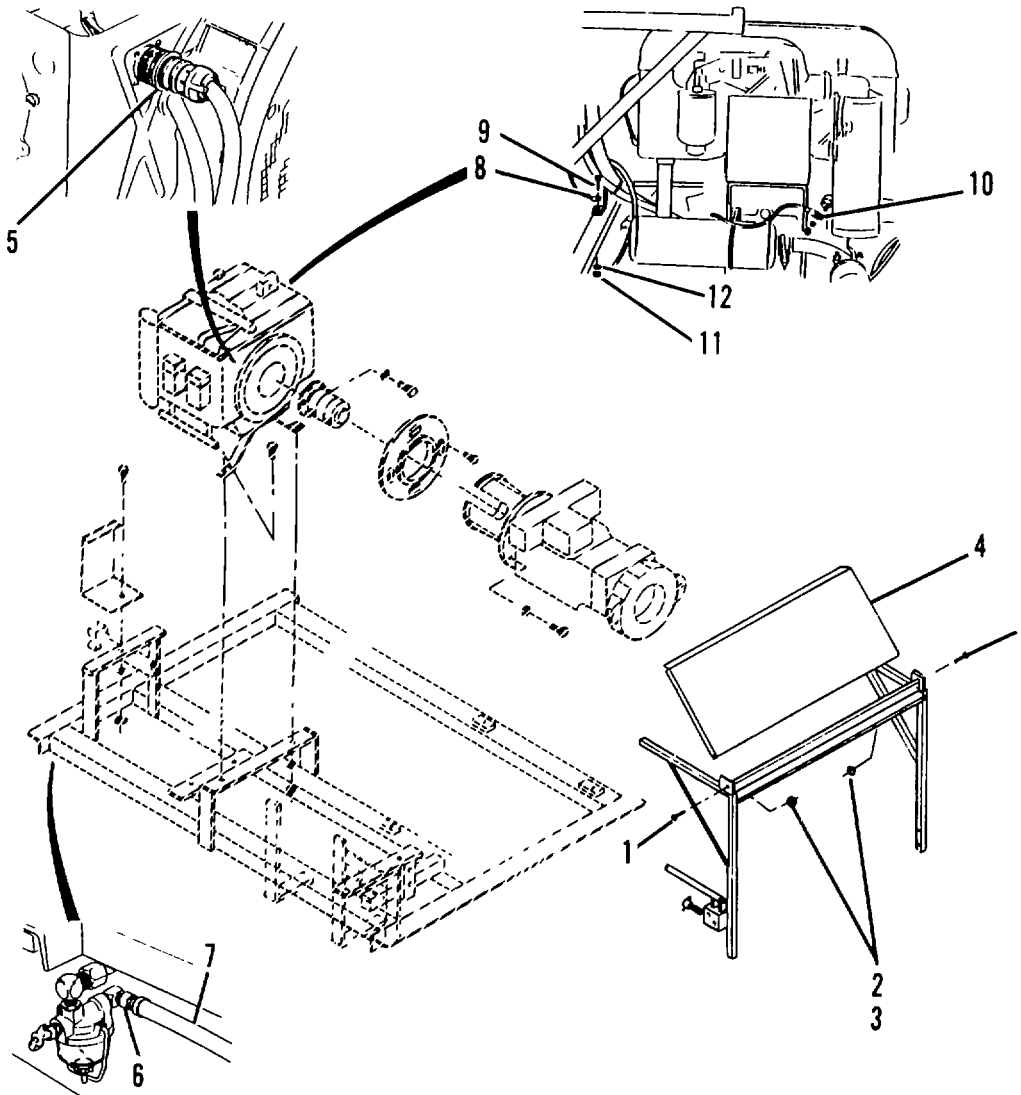

Figure 4-45.5. Engine Mounting.
(17) Connect positive cable (10, Figure 4-45.5) to starter terminal.